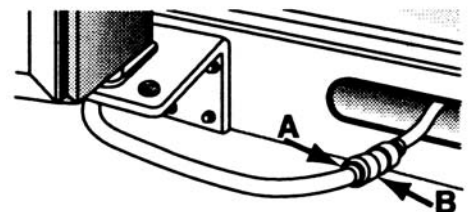

Figure 1
- Pull the door-side tube from the connector "B". See figure 1.
1. Create service loop with copper tubing (minimum 2 feet diameter). Avoid kinks in the copper tubing when bending the service loop. Do not use plastic tubing. See figure 1.